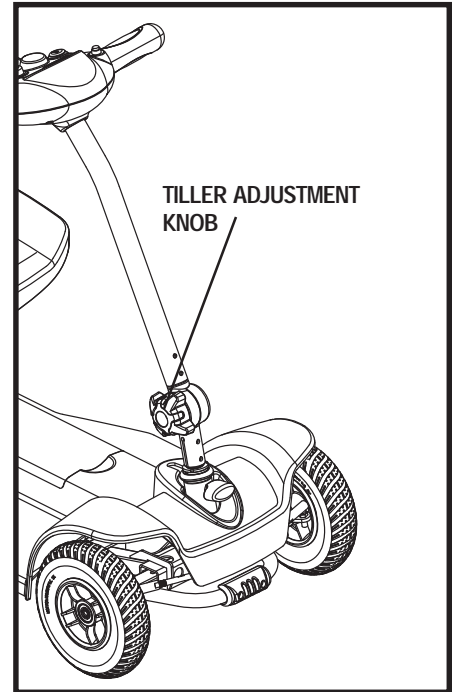

Figure 5. Tiller Adjustment
1. While supporting the tiller, turn the tiller adjustment knob anticlockwise to loosen the tiller. **See figure 5.**